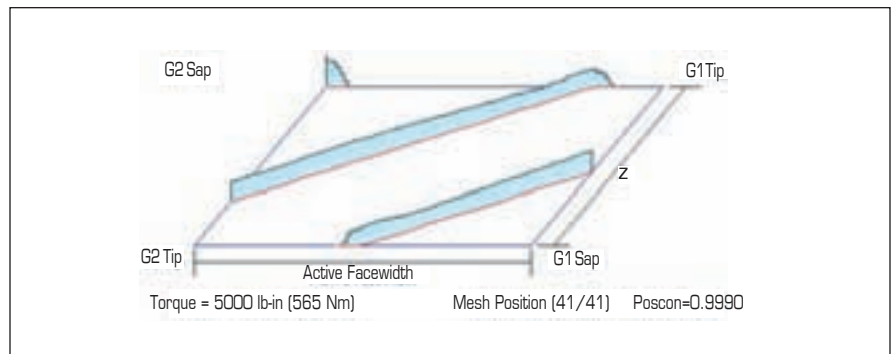

Figure 1—Load distribution of a perfect involute with 5,000 lb-in torque.
Step 2. Using this rating, a load distribution analysis with perfect involutes (shafts not included in the analysis) is performed. Figure 1 shows the load distribution at one contact position for the perfect involute analysis. One observes that there is significant contact at the tooth tips (tip interference) and at the entering corner of the tooth (corner